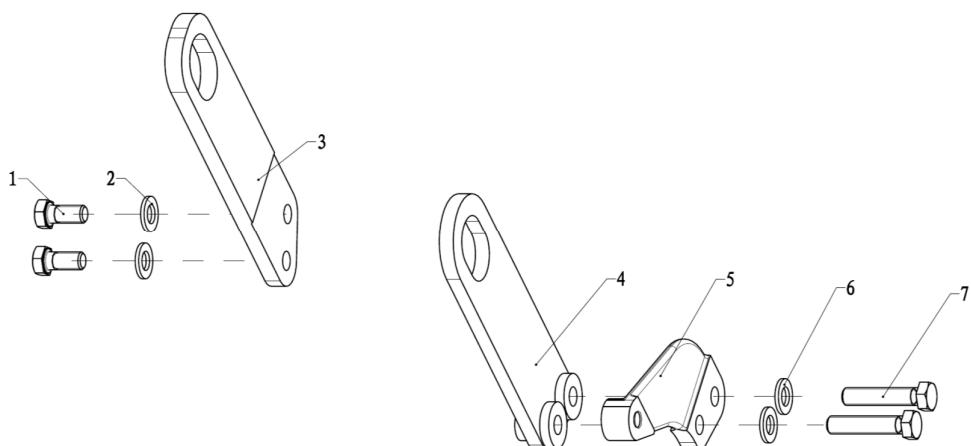

Figure 4-7 Figure of installing the engine hanger assemblies
(1) Fix the M12 Hexagon flange bolts at the 2 in the front and rear of the machine, tighten with a force of 120N.m.
(2) Position and how to tighten the bolt are as shown in Figure 4-7.